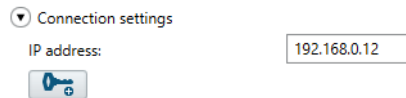

Figure 37: Connection settings
6. Go to the **Connection settings** and click  (see figure 37).